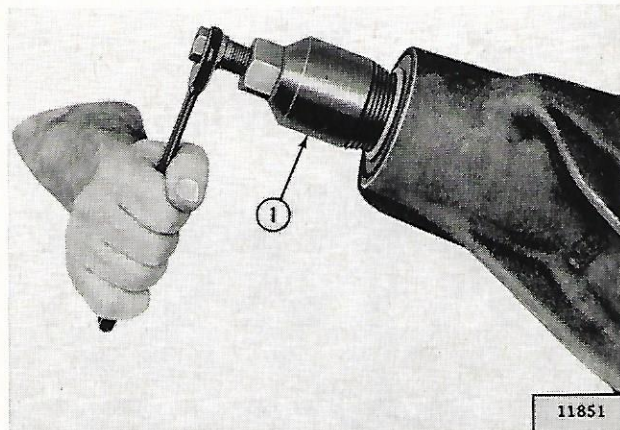

FIG. 11-6—PINION OIL SEAL PULLER
**l.** Remove pinion oil seal using Pinion Oil Seal Puller W-286, as shown in Fig. 11-6.